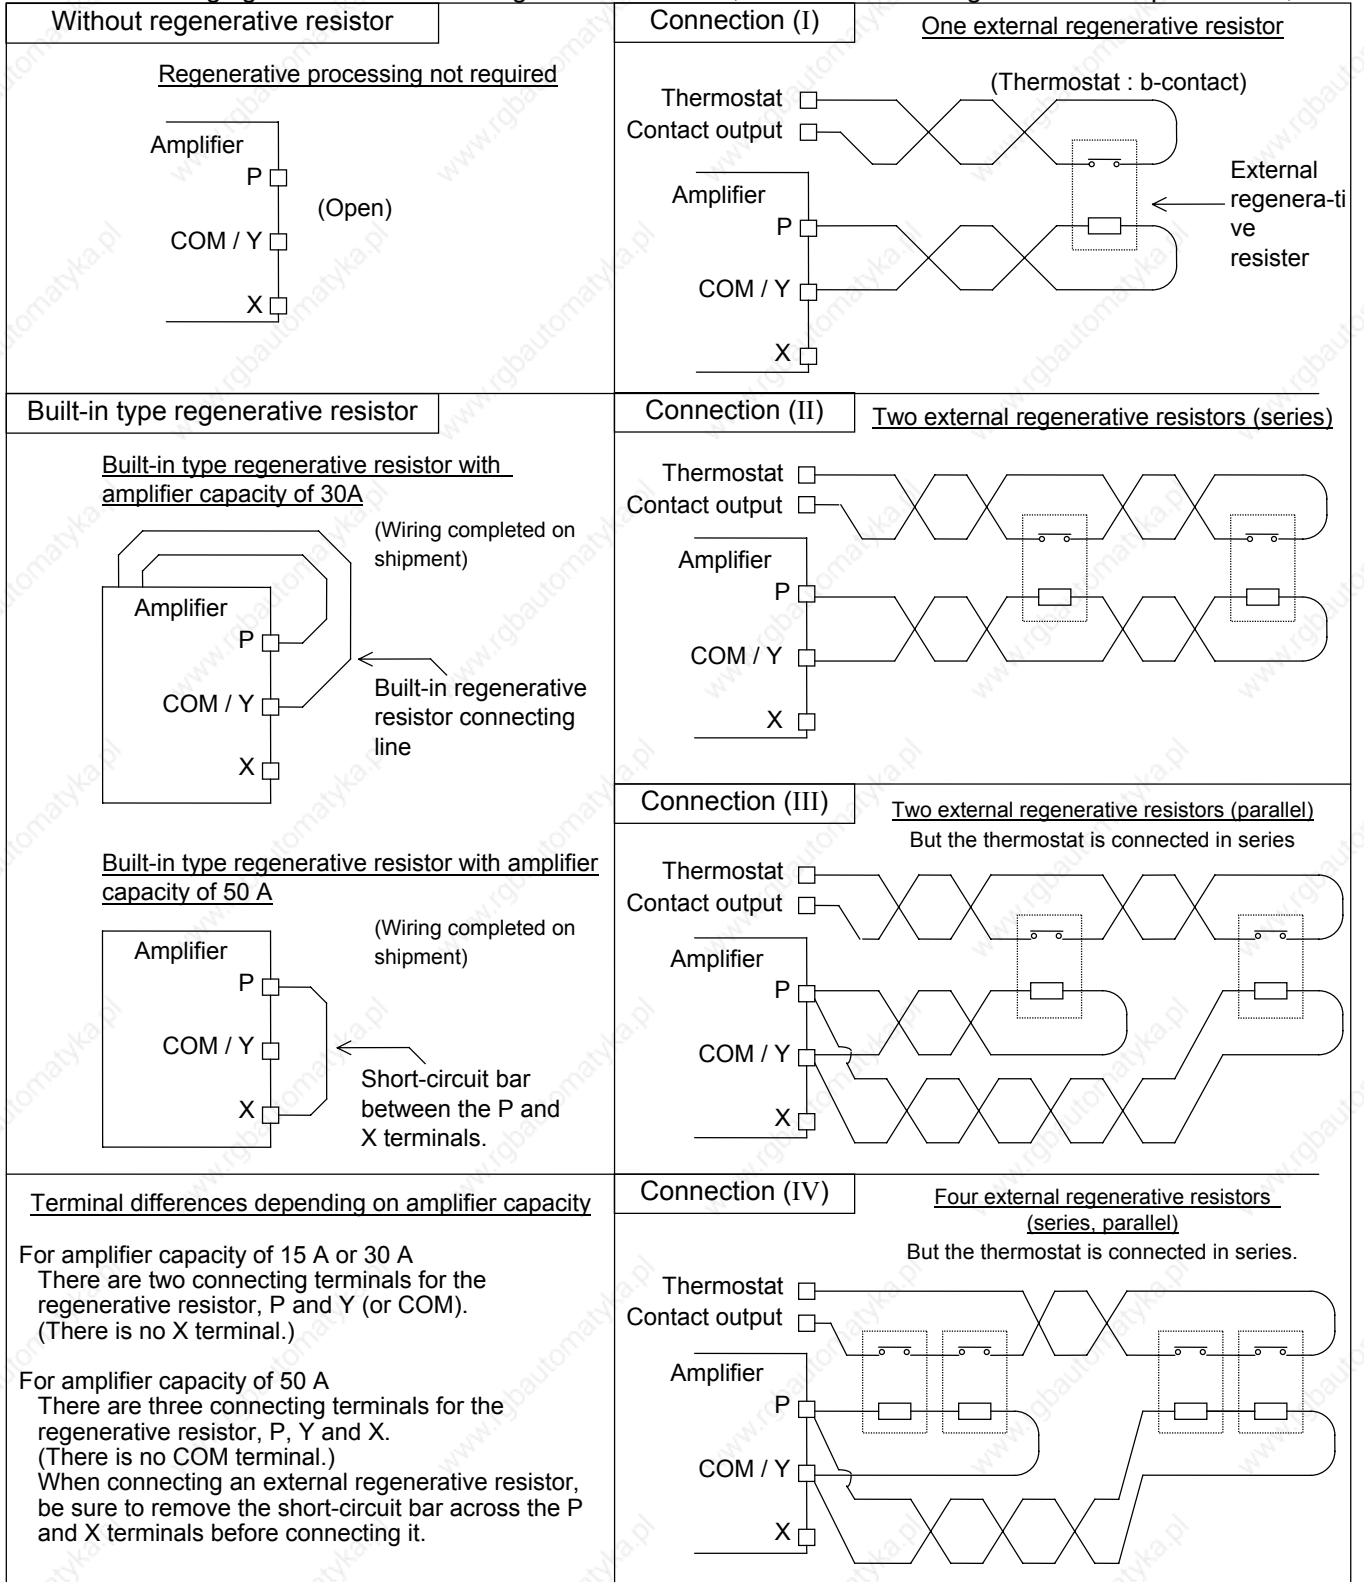

Fig. 9-29 Detailed Connecting Methods of External Regenerative Resistors"
- 1 For the details of how to connect an external regenerative resistor, refer to "Fig. 9-29 Detailed Connecting Methods of External Regenerative Resistors".
<p>For external resistor A to I, refer to "Table 9-24 External Regenerative Resistors List".                      For connecting methods (I) to (IV), refer to "Fig. 9-29 Detailed Connecting Methods of External Regenerative Resistors".                      For "Inquire", consult with us.                      *1 PM : Effective regenerative power                      *2 A built-in type regenerative resistor can be designated as optional for amplifiers having a capacity of 15A and 30 A. Refer to Chapter 1, Model Number of Servo Amplifier.</p>